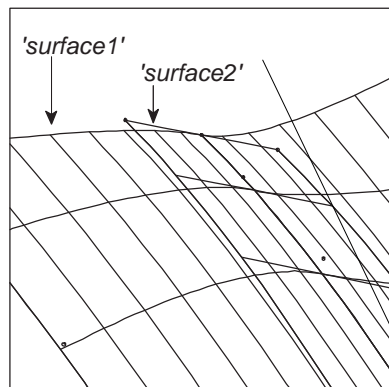

Fig. 19 Lat 3.6, Lon -62.2, Tilt 57.5
- 4 In the Edit dialog, the **"Control curves"** field is active. In the graphic image or in the Available Entities pane, add **'relcvlower'**; **OK** to the Edit dialog (Fig. 19). (This surface started as a ruled surface because it was a B-spline Lofted Surface with two control curves. In general, a B-spline Lofted Surface with more than two control curves is not ruled. In this case, however, because of the way the three parent curves are related, this is still a ruled surface). Both **'surface1'** and **'surface3'** are tangent to this surface (**'surface2'**). This join is G1 — continuous slope.